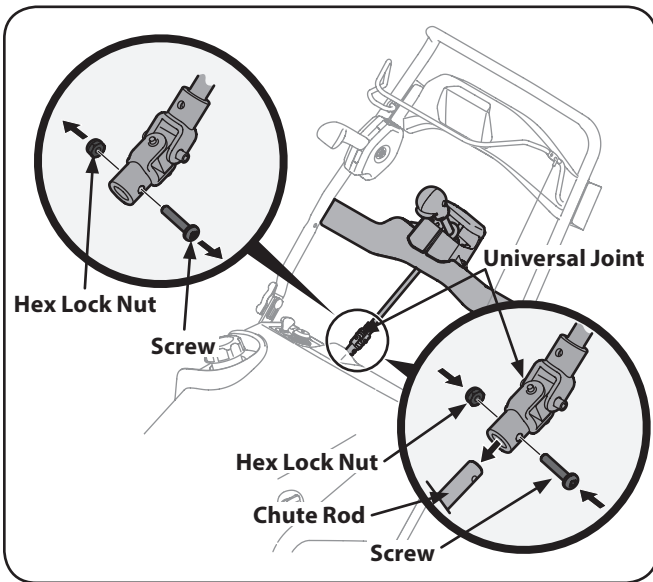

Figure 3-9
- Remove the screw and hex lock nut from the universal joint. See Figure 3-9.
- Install the universal joint on the end of the chute rod as shown in Figure 3-9.
- Secure the universal joint with the hex nut and screw previously removed. See Figure 3-9.